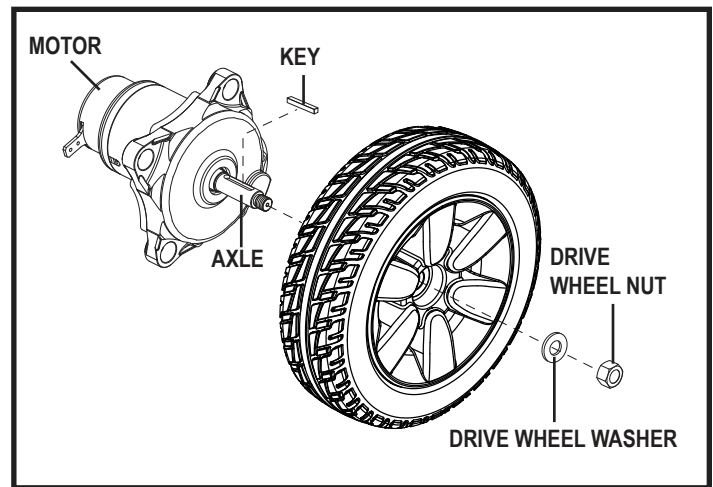

Figure 16. Drive Wheel Removal
5. Remove the hub cap, if equipped. See figure 16.
6. Remove the drive wheel nut and washer from the axle. See figure 16.
12. Reinstall the drive wheel nut and washer onto the axle and tighten. See figure 16.